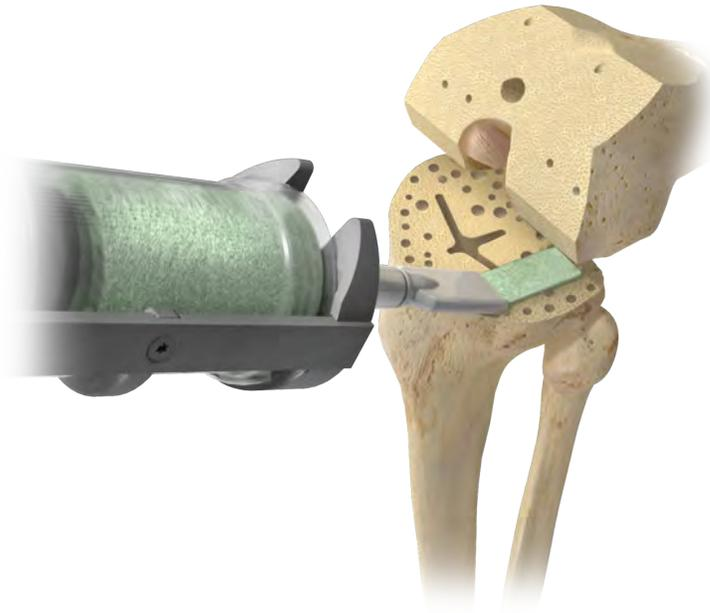

Figure 36
- Use of a cement gun/cartridge equipped with a pressurizing nozzle is recommended to deliver and pressurize cement into the prepared holes and across the flat surface (Figure 36).